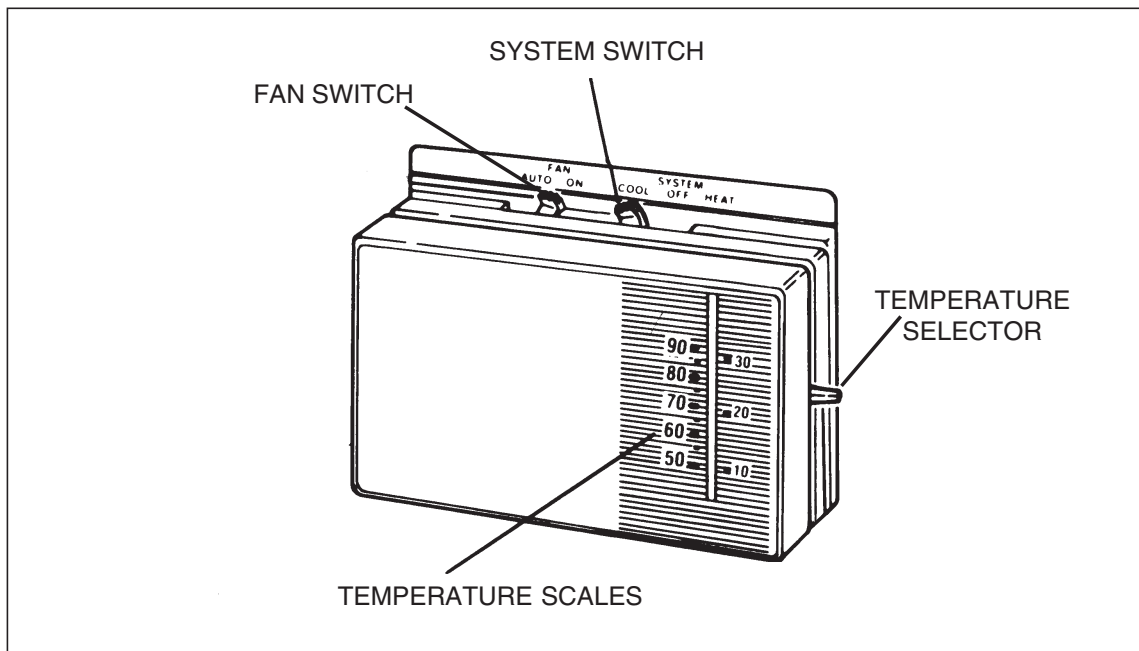

Figure 1. Typical Thermostat
1. Set the thermostat system switch to COOL and the thermostat fan switch to AUTO. (See Figure 1)